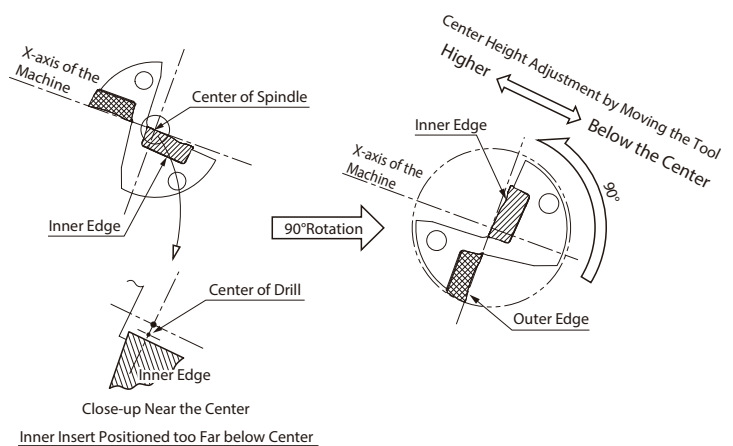

Fig.13
- If the core diameter becomes too large after the above adjustment, install the drill by rotating 90° counter-clockwise as shown in Fig. 13 (outer edge is positioned lower) and adjust the centre height by moving the tool in the X-axis direction.